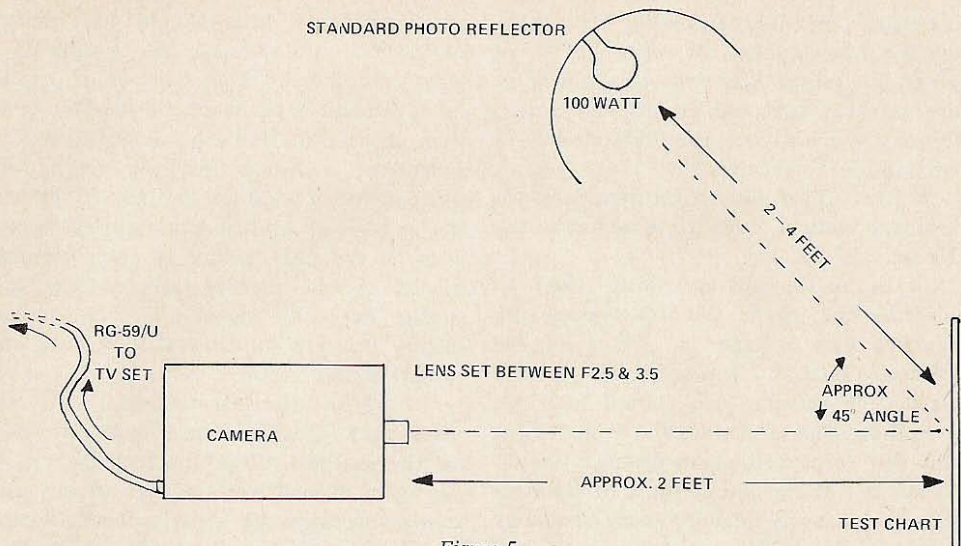

Figure 5
9. Uncap the lens and slowly begin to advance the beam pot (decreasing the negative bias voltage on grid 1 of the vidicon) until a "wiping" effect occurs across the screen. You should now see something that resembles the + chart. For this test, camera-to-chart distance should be about 2 ft and about 100W of illumination 2–4 ft away on a 45° angle, should be used (see Fig. 5). No doubt the picture will be quite poor at this point . . . badly distorted, etc. This is normal since the sweep adjustments have yet to be accurately set.